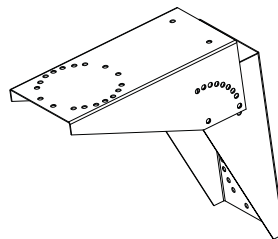
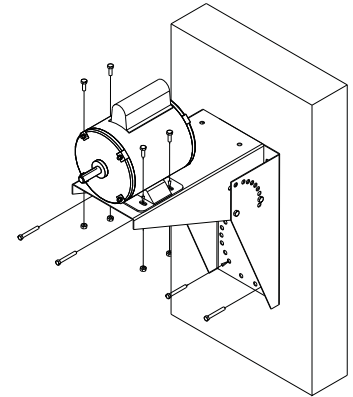

Figure 4 — Bracket Assembly
Figure 5 — Bracket Mounting (Circulator Head Not Shown)
2. Insert the widest part of flange from one bracket inside the widest part of flange from the second bracket, forming a "V" as shown in Figure 4.
3. Position bracket to desired angle by pivoting the two pieces. When at desired angle, insert (4) bolts, (2) on either side where holes align.
5. Mount bracket to the wall as shown in Figure 5. Use appropriate hardware (supplied by others).